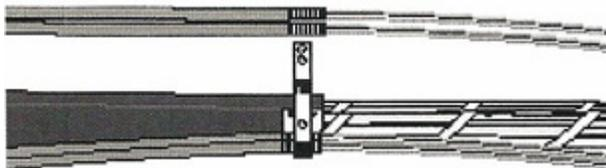

Figure 21
5. Place the exposed metal shield of the service wire onto the shield connector. Fold the connector over and secure it with a washer and nut. The service wire jacket should end 1/4-inch from the edge of the shield connector. Refer to Figure 21.